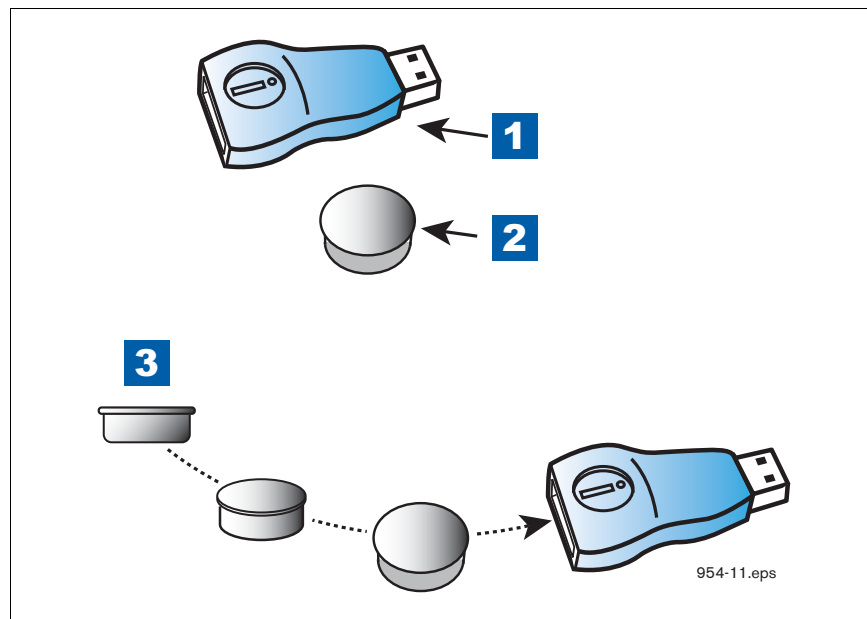

Figure 21. Inserting iButton Into USB Adapter
1. Get the USB Adapter and upgrade iButton from the upgrade kit (P/N 330020-803). Remove the plastic end cap from the USB Adapter and insert the iButton in the adapter as shown in Figure 21 below.
LEGEND FOR NUMBERED BOXES IN Figure 21